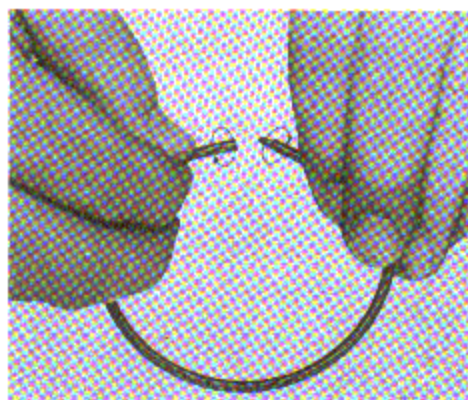
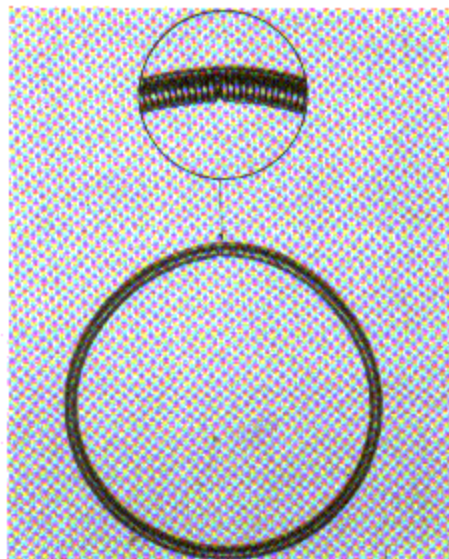

Figure 7-3.
Figure 7-4.
3. On type seal requiring a garter spring, place the spring around the crankshaft, bringing the two ends together and turning in a clockwise direction to tighten. (Figure 7-3) Make sure that the pointed end is firmly inside the coils of the open end. The spring should now be a continuous circle around the crankshaft and no kinks or twists are permitted. (Figure 7-4) (On seals not equipped with a garter spring, this step is not required.)